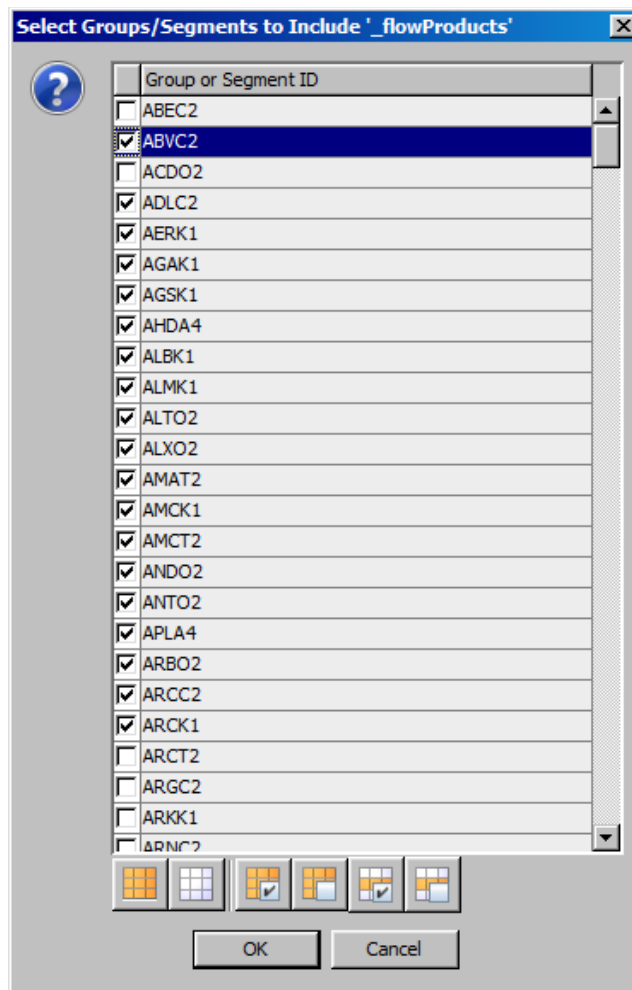

Figure 3-4: The Select Groups/Segments to Include Dialog.
- Select Groups/Segments Buttons:** Click to assign the group or segment currently selected via the **Segments with Defined Settings Table** (described in the previous section) to multiple groups or segments. When clicked, a **Select Groups/Segments to Include Dialog** opens (shown below in Figure 3-4. Check the rows that correspond to all groups or segments to include the currently selected group or segment and click **OK**. Upon clicking **OK**, the checked groups and segments will be updated to include the currently selected group or segment and a The buttons below the table are as follows: